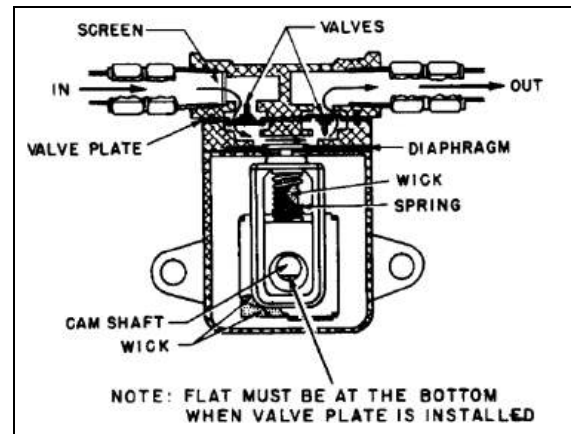

Figure 12 - Fuel Pump
14. Fuel Pump (See Figure 12). Replace the valves in the fuel pump at each overhaul using the part no. G-735736 Overhaul Kit, which contains a new valve plate and gaskets. Valves are already installed in the plate. Remove the four screws from the cover of the fuel pump assembly and lift off the cover. Remove the valve plate and gaskets and replace with new parts from the overhaul kit. Make sure the new valve plate is installed the same as the one which was removed. The valve at the inlet side of the pump must have the pointed side up. The outlet valve will then have the circular disc exposed. Loosen the clip and remove the bearing from the end of the camshaft before tightening cover screws. The flat of the camshaft must be at the bottom when the cover is installed. Add one cc of Winsor Lube no. L-245X (mfg'd. by F.E. Anderson Oil Co., Portland CT) to wick through the bearing opening before the bearing is reinstalled. Tighten cover screws securely to prevent leakage.